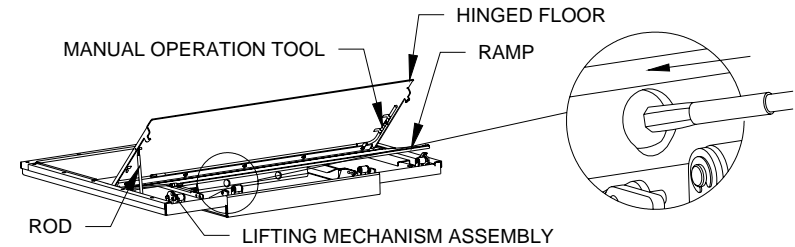

FIGURE 2-5: RAISED HINGED FLOOR
- 3) Refer to **Figure 2-5**. Lift hinged floor using rod to keep it open and remove manual operation tool located under hinged floor.
- 4) Refer to **Figure 2-5**. Insert hex end of the manual operation tool through the left hole under the ramp and onto the end of the ball screw assembly.
- 1) Refer to **Figure 2-5**. Lift hinged floor using rod to keep it open and remove manual operation tool located under hinged floor.
- 2) Refer to **Figure 2-5**. Insert hex end of manual operation tool through left hole under hinged floor and onto end of ball screw assembly.